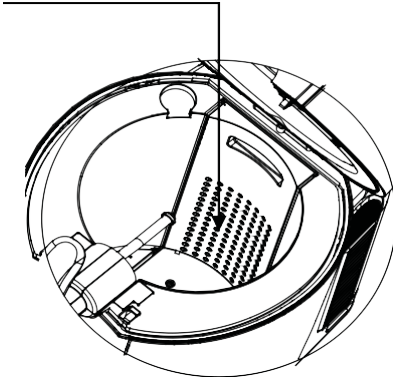

Figure 5
5. The Beer dispenser can work without water. To achieve best performance, put 800mL of water or to the max line into the cooling cavity (Figure 5).